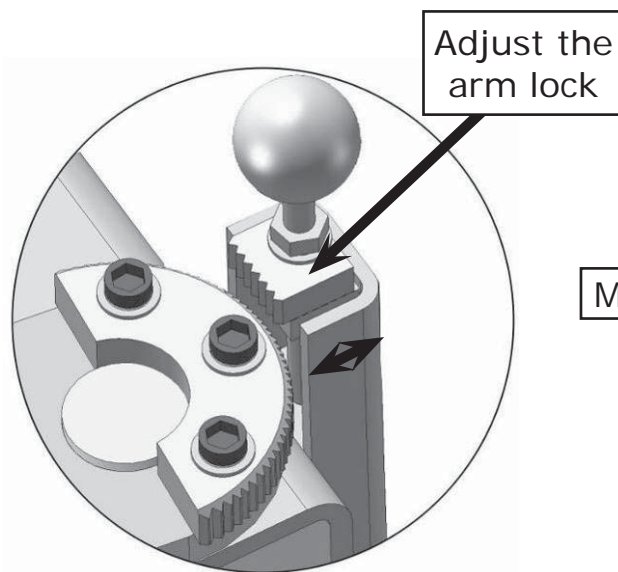

Fig. 25
3. Adjust the arm lock in the arrow direction (See Fig. 25).